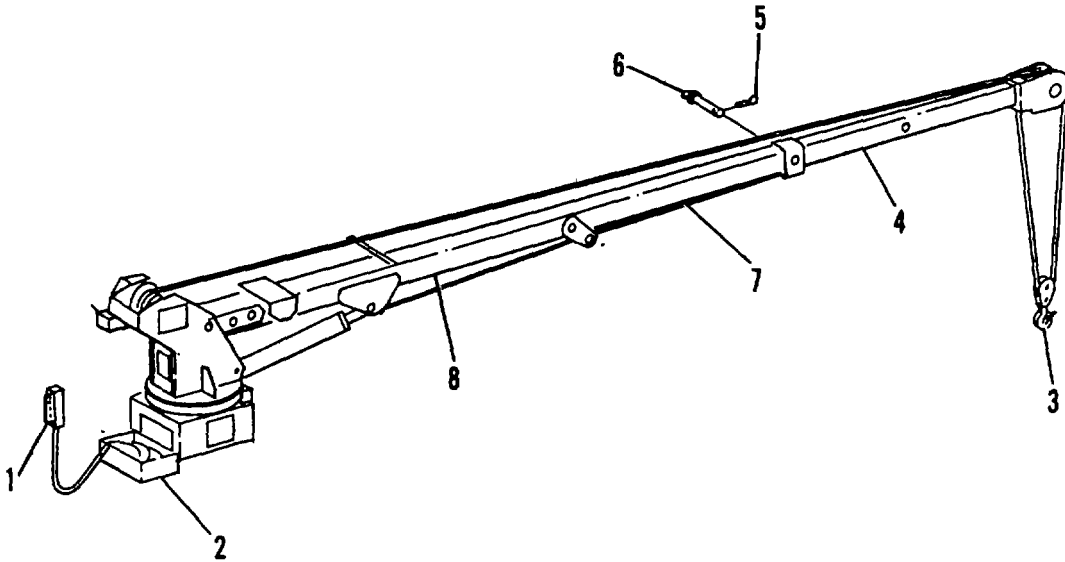

Figure 2-29. Crane Operating Instructions
- (3) Remove the remote control pendant (1, Figure 2-29) from the storage box (2) near the crane base.
- (4) Release the crane from its traveling position by moving the winch switch to the DOWN position. Unwind enough wire line to relieve tension from the wire line.
(1) Retract manual extension boom as follows:
- (a) Remove clinch pin (5, figure 2-29).
- (b) Pull out the manual extension pin (6).
- (c) Rewind the hoist line while pushing in the manual-pullout extension boom (4).
- (d) Aline the pin holes and reinstall the manual extension pin (6) and clinch pin (5).
(2) Operate the remote controls (1) to retract the hydraulic extension boom (7) while rewinding the hoist line.
(3) Position the crane main boom (8) so it is centered over the boom stand.
(4) Lower the main boom until it rests onto the boom stand.
(5) Attach the crane snatch block (3) to the boom stand hook.